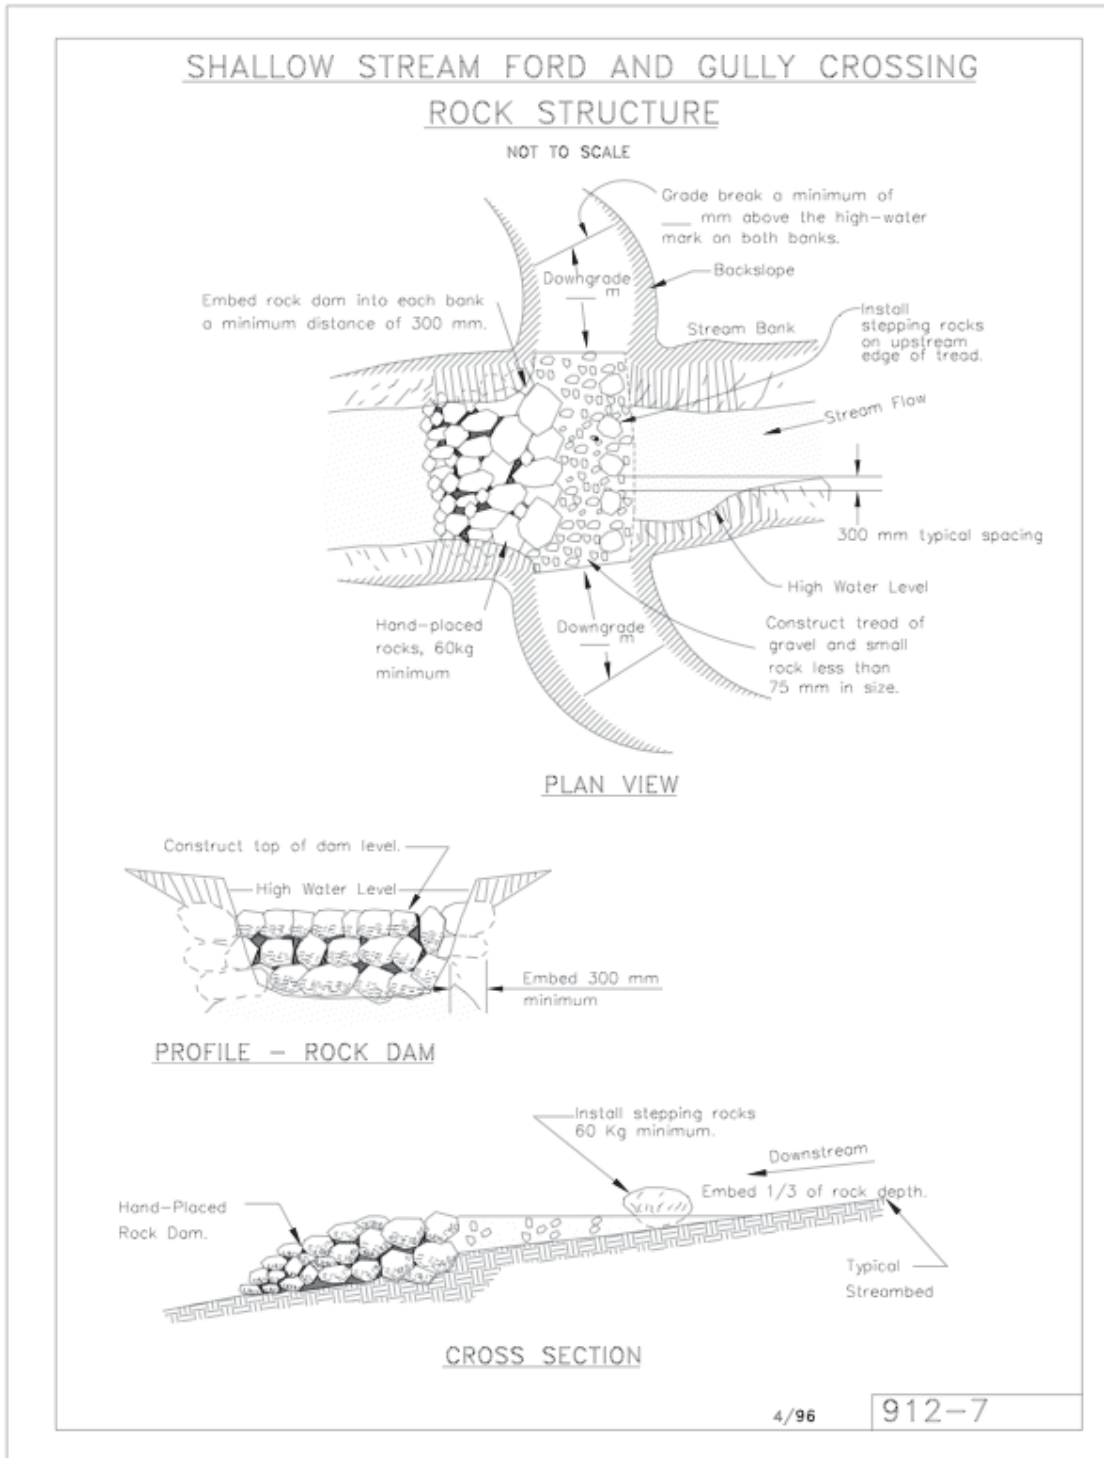

Figure 19: Shallow stream ford and gully crossing rock structure
4.21 Rock Armored Ford (figure 19)